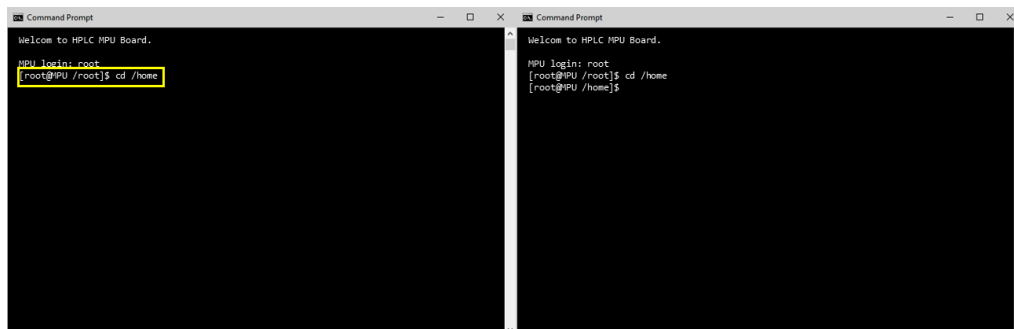

Figure 22. Enter 'cd /home'
11. Enter 'cd /home' and press 'Enter' key (see Figure 22).